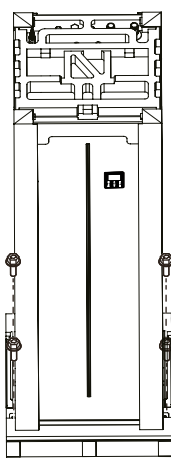

Fig.6-3
- Remove the 4 screws of the wooden base(Refer to Fig.6-3).